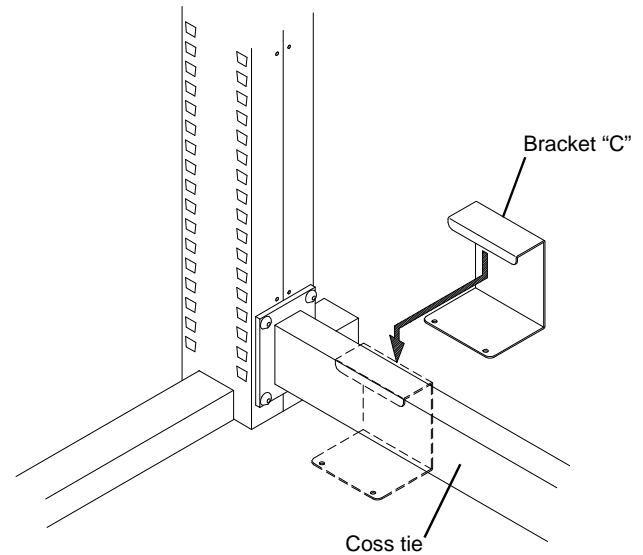

Figure 3
5. Install **Bracket "C"** by sliding the Bracket over the Cross tie as shown in **Figure 3**.